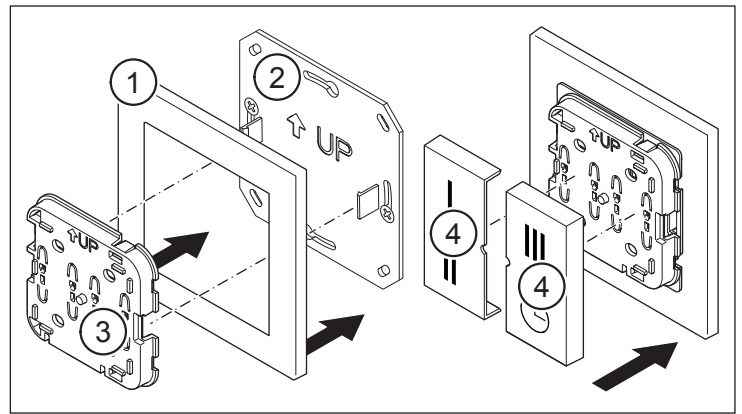

Fig. 4: Assembling the wireless pushbutton switch
- ▶ Place the frame (item 1 in Fig. 4) on the mounting plate (item 2 in Fig. 4).
- ▶ Snap the electronic unit (item 3 in Fig. 4) onto the latches on the mounting plate. Make sure that the arrow labelled "UP" is always pointing upwards.
- ▶ Place the two buttons (item 4 in Fig. 4) onto the electronic unit.